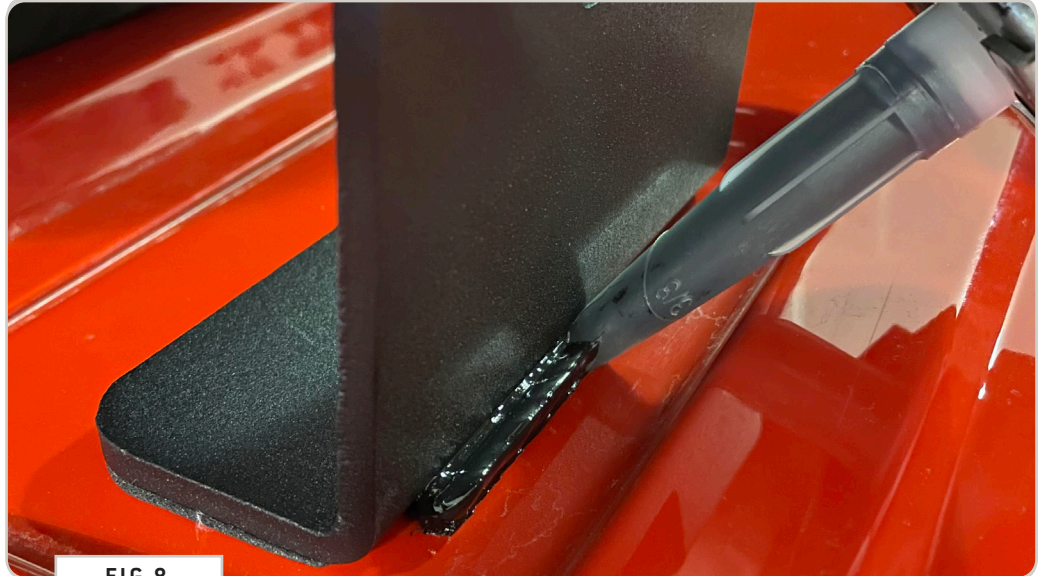

FIG 8
2.2 Apply Sealant: Apply a small bead of exterior waterproof sealant around the outside of each landing pad (**FIG 8+9**).